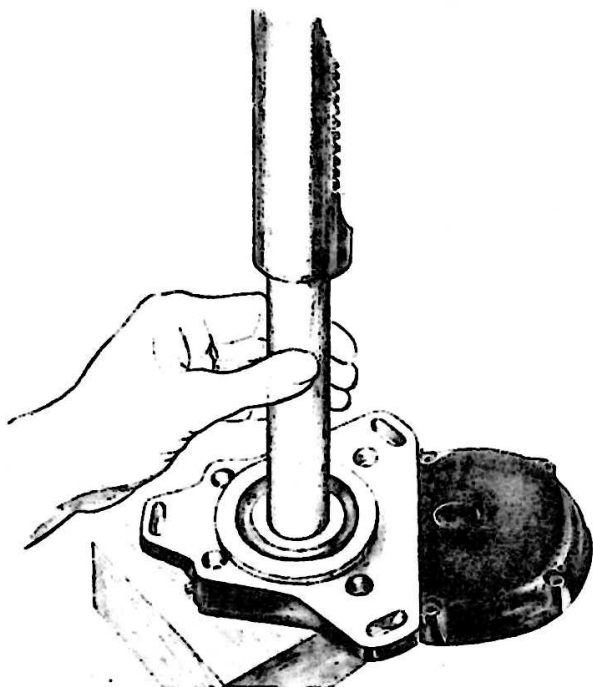

Figure 6 - Removing Oil Seal
(1) Remove the drive shaft nut. This is done by holding the magneto drive coupling with the box wrench No. 11-1239 and using the No. 11-986 socket wrench for the nut.
(2) Remove the drive coupling. If it sticks, use puller No. 11-1257.
(3) Take out the four screws which hold the mounting flange and front end plate to the magneto housing. Take out the six screws which secure the flange to the front end plate, and tap the flange lightly to remove it from the plate. If the oil seal in the flange shows evidence of failure or deterioration remove it and replace with a new seal. The old oil seal can be pressed out with a small wooden dowel 1-1/8 inch in diameter. The new oil seal can be pressed in using No. 11-1350 support. (See figure 6.)